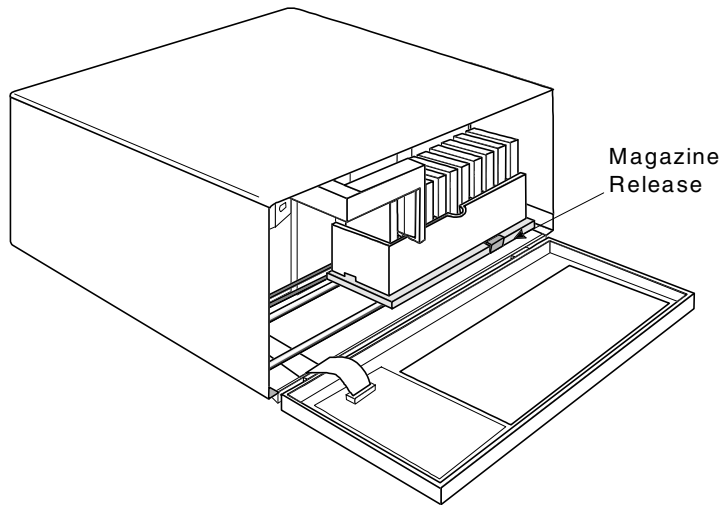

Figure 13. The Magazine Release
- ☐ Press the Magazine Release on the carriage. See Figure 13. The magazine will release from the holding pins.